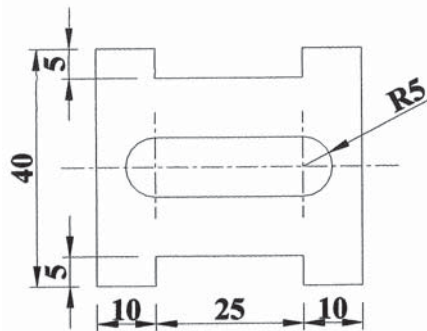

Fig: 4
5. Design a progressive die for the component shown in Fig.4.